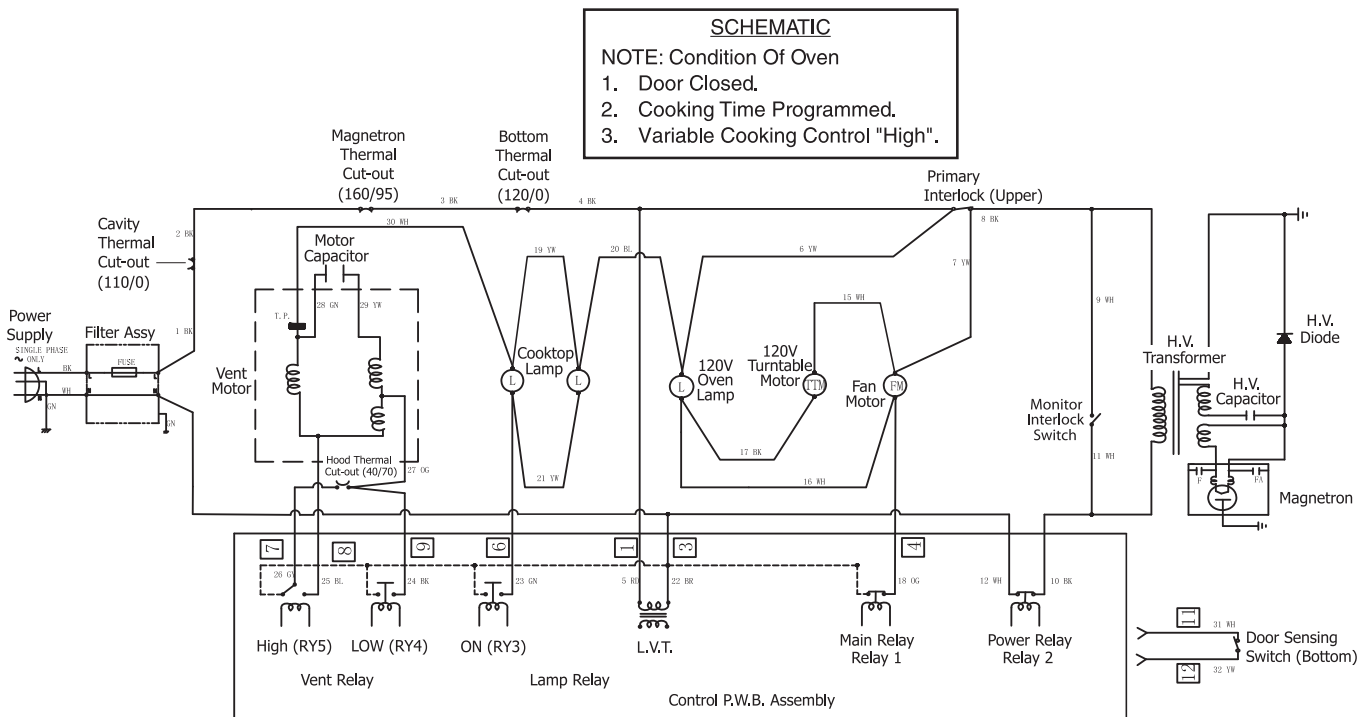

Figure 2-2. Oven ON (Cooking) Condition
1. The contacts of relays are closed and components connected to the relays are turned on as follows. (For details, refer to Figure 2-2)